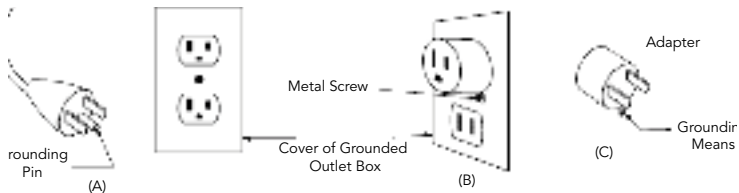

Figure 65.1
13. This GARMENT STEAMER is for use with a 120 volt electrical outlet. The cord has a plug as shown at A in Figure 65.1. An adapter, as shown at C, can be used to connect three-blade grounding-type plugs to two-slot receptacles (it is not included with your product). The green grounding lug extending from the adapter must be connected to a permanent ground such as a properly grounded outlet box. An adapter should not be used if a three-slot grounded receptacle is available. *NOTE: A TWO-PRONG ADAPTOR IS NOT INCLUDED WITH THIS PRODUCT.